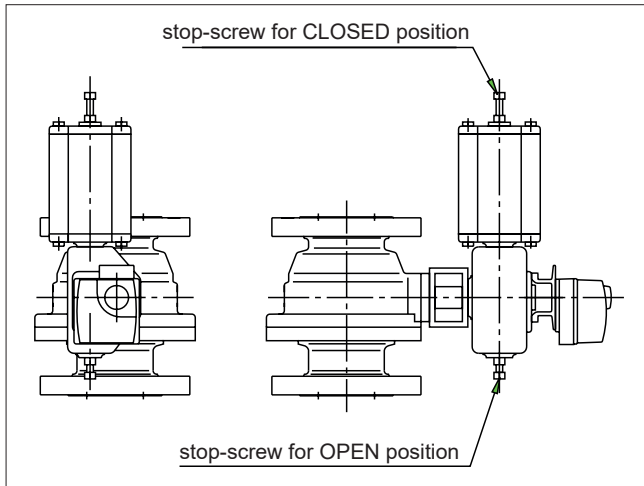

Fig. 31 Open and closed positions of the B series actuators
- Detach the actuator using a suitable extractor, see Fig. 31. The tool can be ordered from the manufacturer.